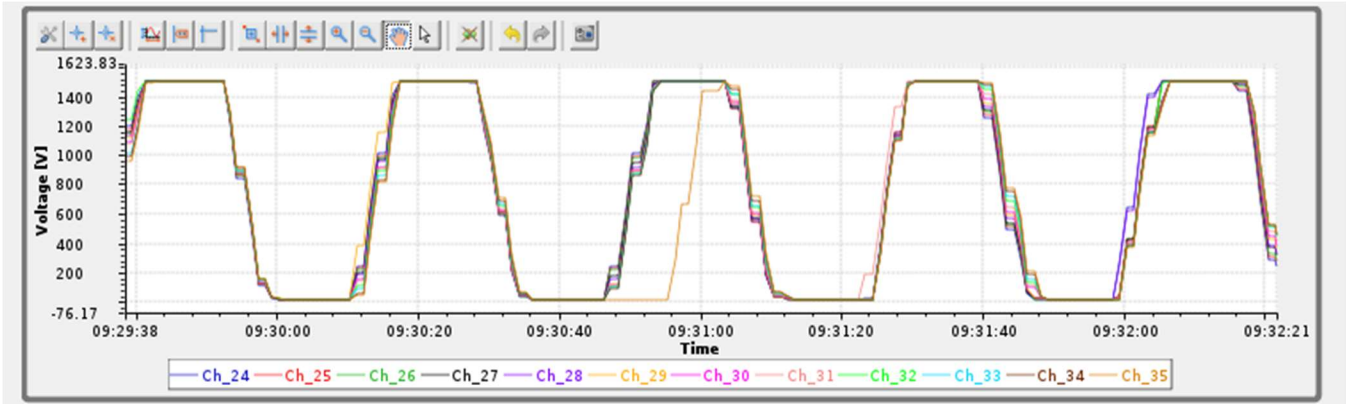

Fig.15 – HV CAEN – Voltage Ramp Test CSS BOY screen shows the fourth latency incident for channel 35.
- Channel 35 had same misbehavior as mentioned in previous test; channel 35 had one latency incident during this trial. See fig.15.